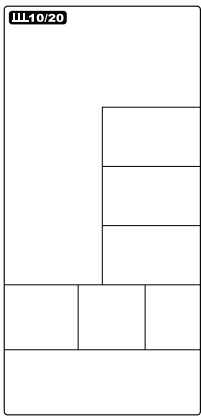
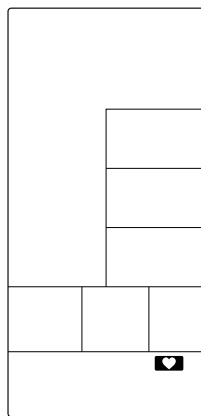

Figure 4
Figure 16
2. The window of **INTERVAL10/20**, **INTERVAL10/20**, **INTERVAL CUSTOM**, **READY**, **WORK**, **REST**, **TIME**, **DISTANCE**, **CALORIES**, **WATTS**, **SPEED**, **RPM** and  will flash by sequence in every 1s (Figure 4~Figure 16). If no input of key operation or RPM signal or pulse input for 60s, computer will go to Sleeping mode.